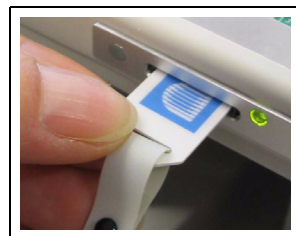

Figure 9-44. Inserting a Column ID Chip Card
2. Insert the chip card (with the Dionex logo facing up) into the appropriate card reader (A, B, C, or D) along the top of the compartment (see Figure 9-44).